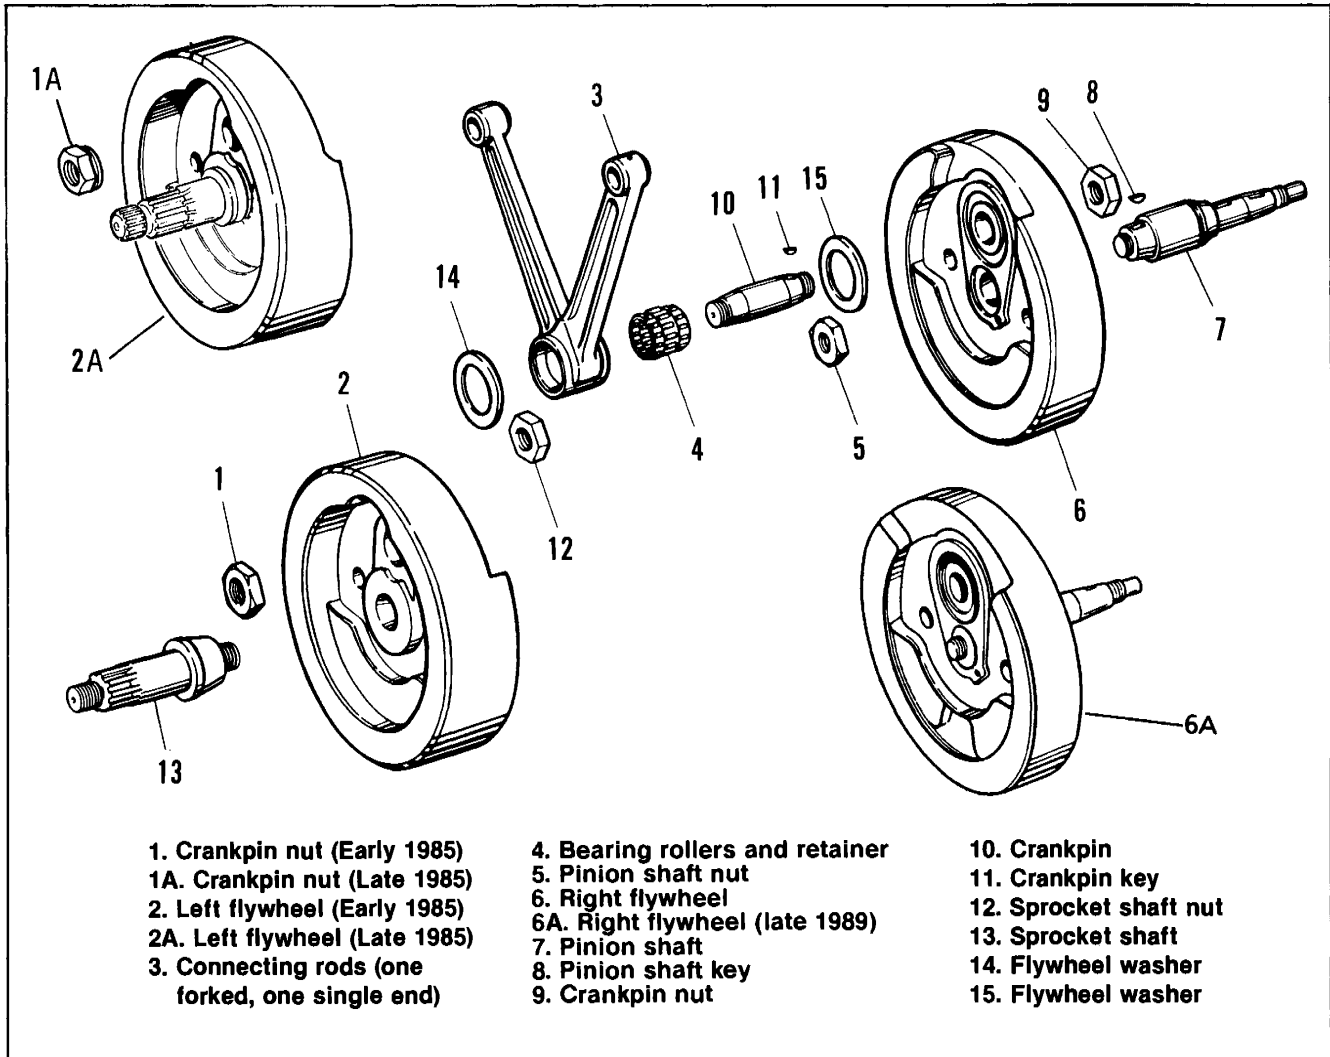

Figure 3-49. Flywheel Assembly
3. See Figure 3-49. Remove left flywheel and gear shaft assembly. Remove crankpin key (11).
4. Hold down bearing assembly with a short length of pipe or tubing so connecting rods (3) may be slipped off bearings. Remove bearings (4). Hold together in set until bearings are washed and refitted to crankpin.
5. Using 1-5/8 in. socket, SNAP-ON Part No. S6202, remove sprocket shaft nut (12). On early 1985 models, press the sprocket shaft (13) out of flywheel. On late 1985 and later models, the sprocket shaft is an integral part of the flywheel.
6. Turn flywheel over in fixture and remove crankpin nut (1). Press crankpin out of flywheel.
CLEANING AND INSPECTION (Figure 3-49)
ASSEMBLY (Figure 3-49)